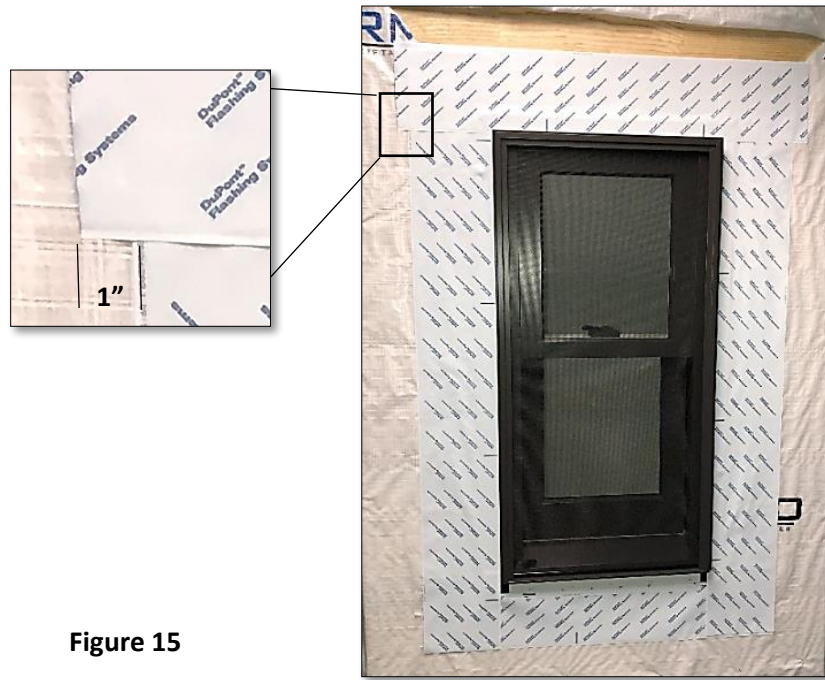

Figure 15
- 2.13 Cut and apply 9" wide self-adhesive flashing over the head jamb nail fin, extending approximately 1" past the left and right side jamb flashing, already in place (see Figure 15). Use a J-roller to ensure proper adhesion of flashing to the sheathing.